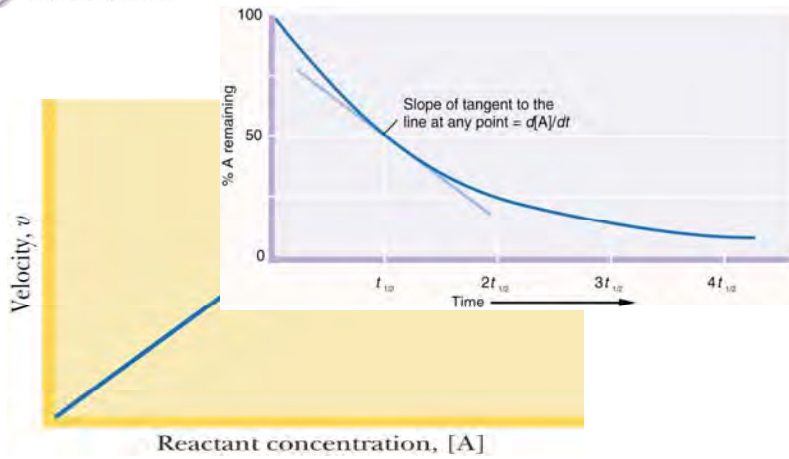

Figure 13.6
- display a plot of the reaction rate vs. reactant concentration as a straight line (Figure 13.6)